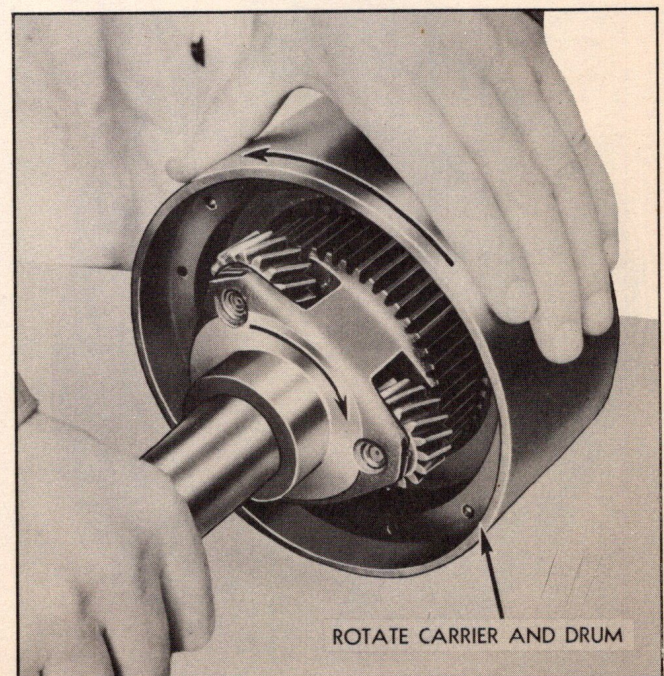

Fig. 244—Aligning Clutch Plates
15. Remove planet carrier from holding fixture and insert planet carrier into drive plates and drum by rolling drum on bench while pressing carrier firmly into the plates (Fig. 244).